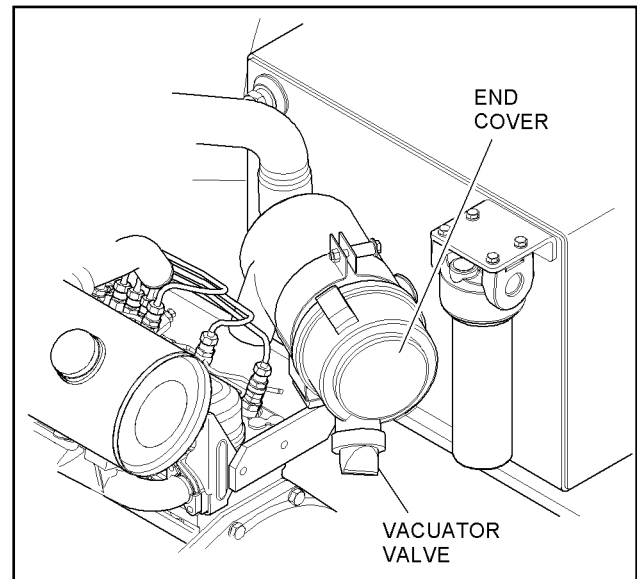

FIGURE 4-4. AIR CLEANER ASSEMBLY
4. Remove the filter element (Figure 4-4).